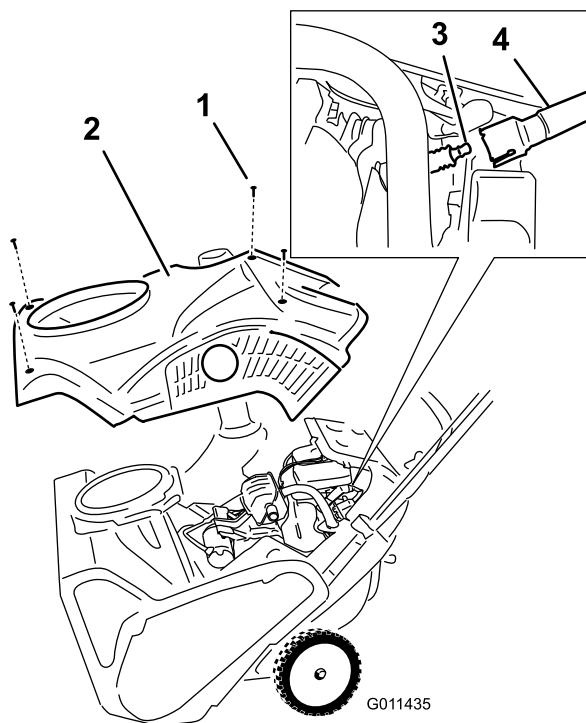

Figure 34
4. Remove the 4 screws that secure the shroud (Figure 34).
6. Remove the shroud (Figure 34).